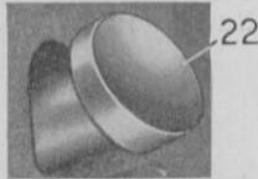

FIG. 13
Sewing forward or reverse is regulated by push button (22), fig. 13.